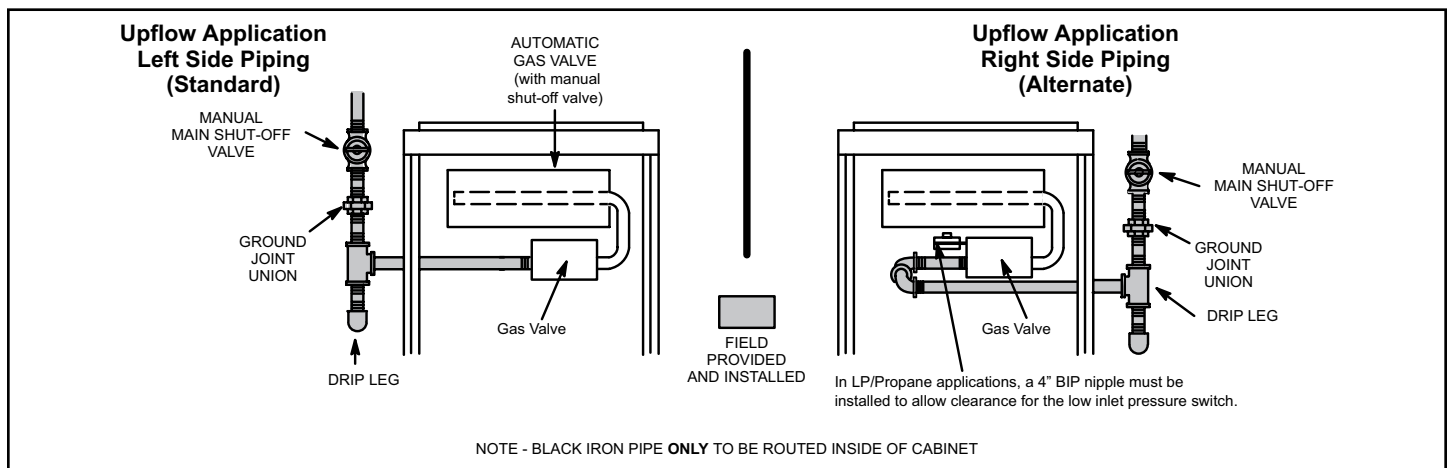
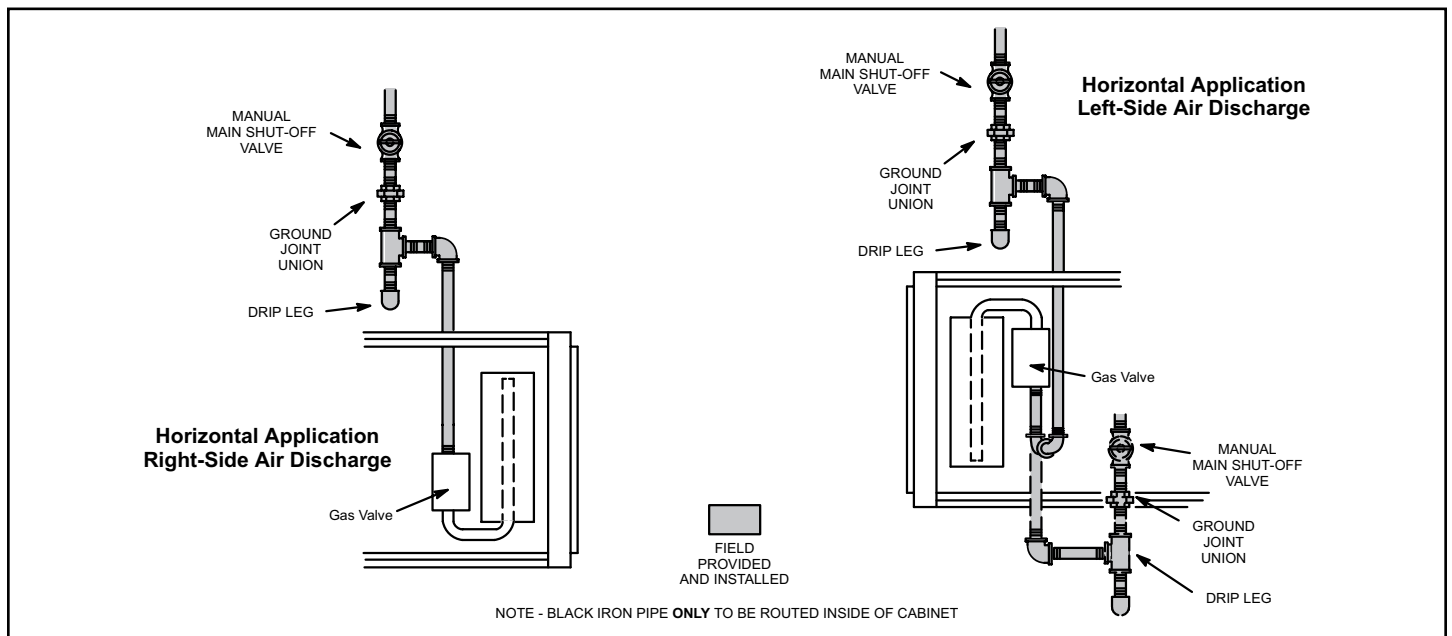

Figure 58. Upflow Applications
Figure 59. Horizontal Applications
1. Gas piping may be routed into the unit through either the left or right hand side. Supply piping enters into the gas valve from the side of the valve as shown in Figure 58 and Figure 59.
3. Gas piping must not run in or through air ducts, clothes chutes, chimneys or gas vents, dumb waiters or elevator shafts. Center gas line through piping hole. Gas line should not touch side of unit. See Figure 58 and Figure 59.